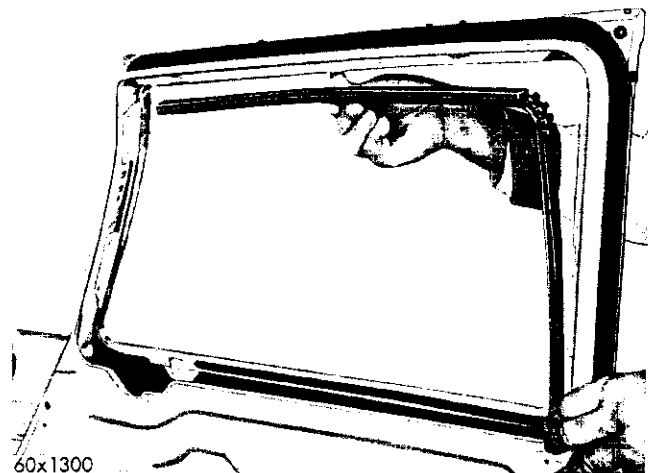

Fig. 45—Removing the Glass Run Channel (Chrysler)
(3) Lower the glass and pull the glass run channel free at the top (Fig. 45).
(4) Pull the glass run channel up until the upper and lower clips are disengaged.
(5) Remove the glass run channel from the door.
(1) To install the glass run channel, first lower the glass.
(2) Slide the channel down and engage the upper and lower clips (Fig. 45).
(3) Push the channel down. Install the upper portion of the channel.
(4) Install the trim panel, hardware, and garnish moulding.